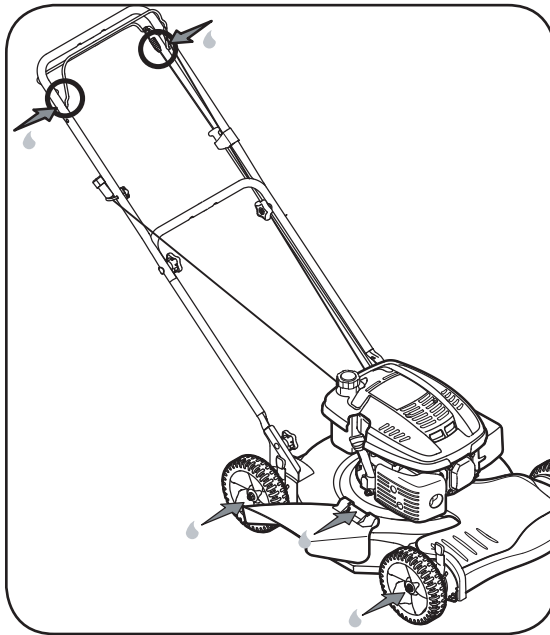

Figure 3
1. Lubricate pivot points on the blade control and drive control at least once a season with light oil. These controls must operate freely in both directions. See Figure 3.
2. Lubricate the wheels at least once a season with light oil (or motor oil). If wheels are removed for any reason, lubricate surface of the pivot arm and inner surface of the wheel with light oil. See Figure 3.
3. Lubricate the torsion spring and pivot point on each end of the side mulching plug/ chute deflector periodically with light oil to prevent rust. See Figure 3.